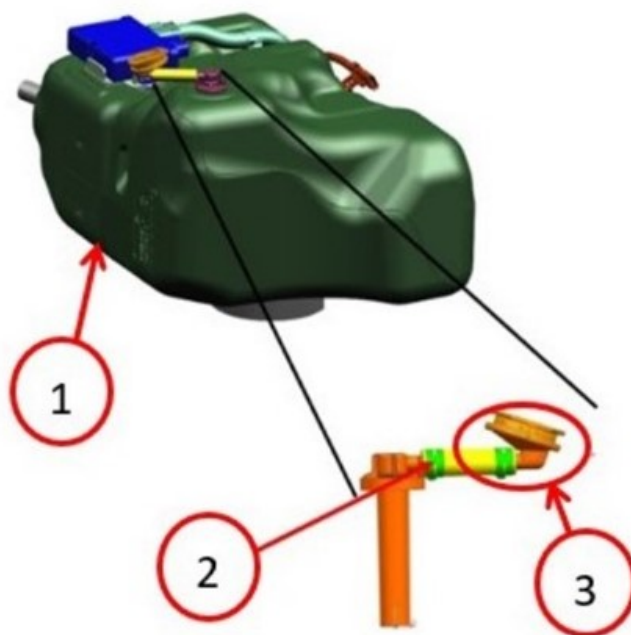

Fig. 1
2. Loosen the hose clamp on the Grade Vent Valve (GVV) hose from the DEF tank Fig. 1.